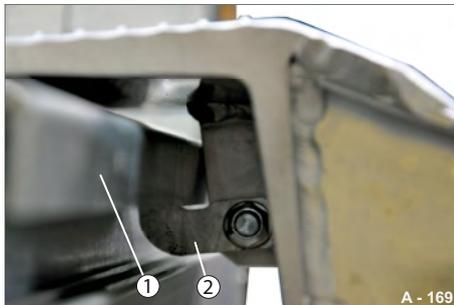

Fig. 180 Securing hook secured
- ▶ Check that the securing hook (Fig. 180/2) engages in the cover plate of the loading platform edge (Fig. 180/1).